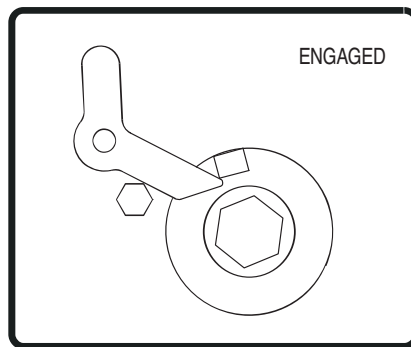

FIGURE 2a
2. Engage the roller stop pawl. ( *See Figure 2a.* ) Note: The roller stop pawl may be placed on the right or left inside as needed for easy accessibility.
6. Before removing reel from reel roller, place the roller stop pawl in the engaged position. ( *See Figure 2a.* ) Then remove reel from the reel roller.